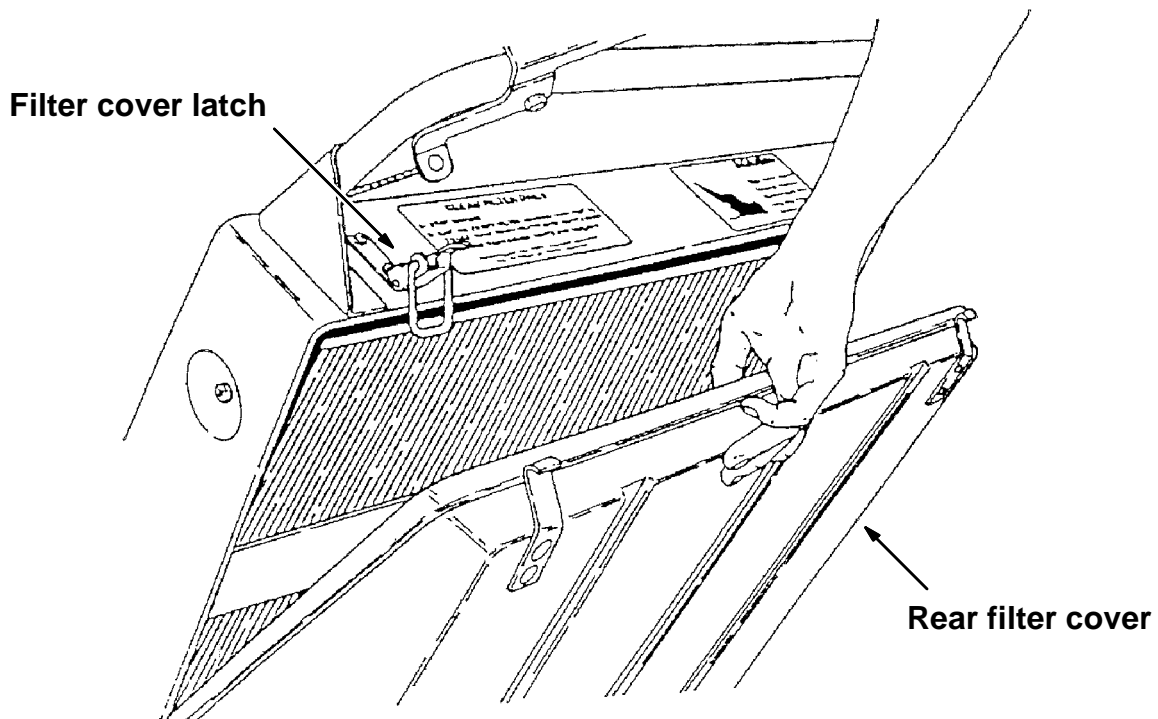

FIG. 1 - OPENING REAR FILTER COVER
(Refer to FIG. 1, 2 and 3)
(Refer to FIG. 1)
2. Unlatch the two filter cover latches and lower the rear filter cover. (Refer to FIG. 1)